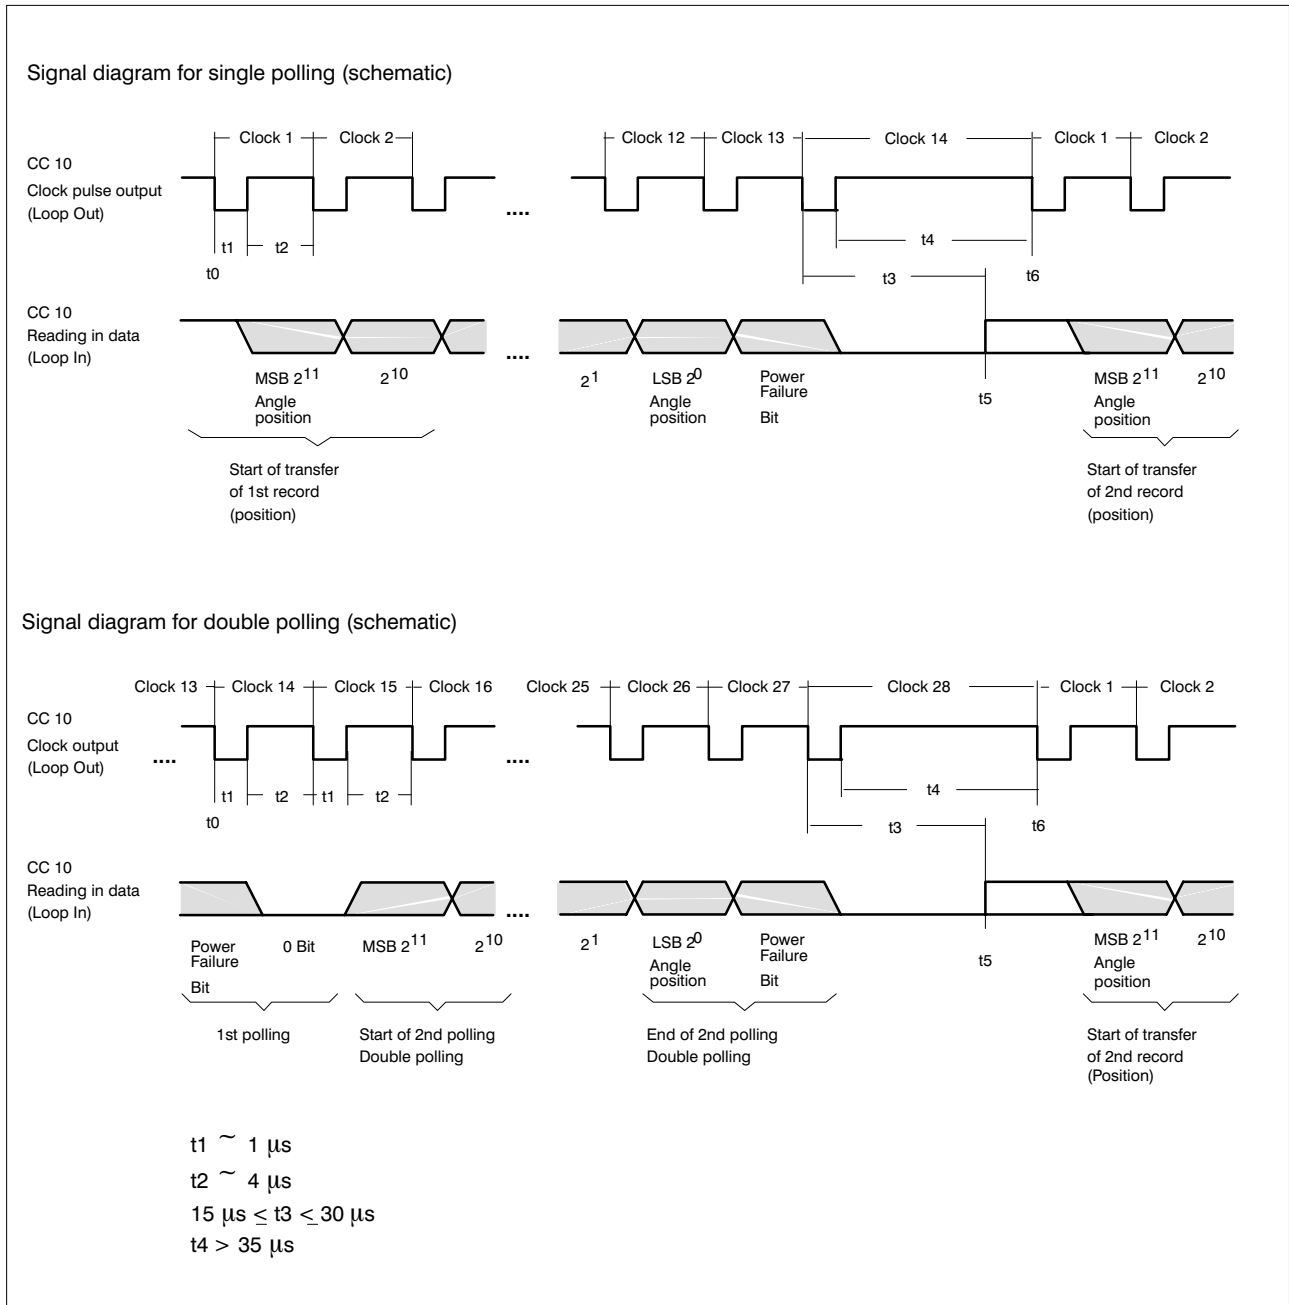

Fig. 5.4.2
5.4.4.1 Data transfer for single-turn encoders (refer to Fig. 5.4.2)